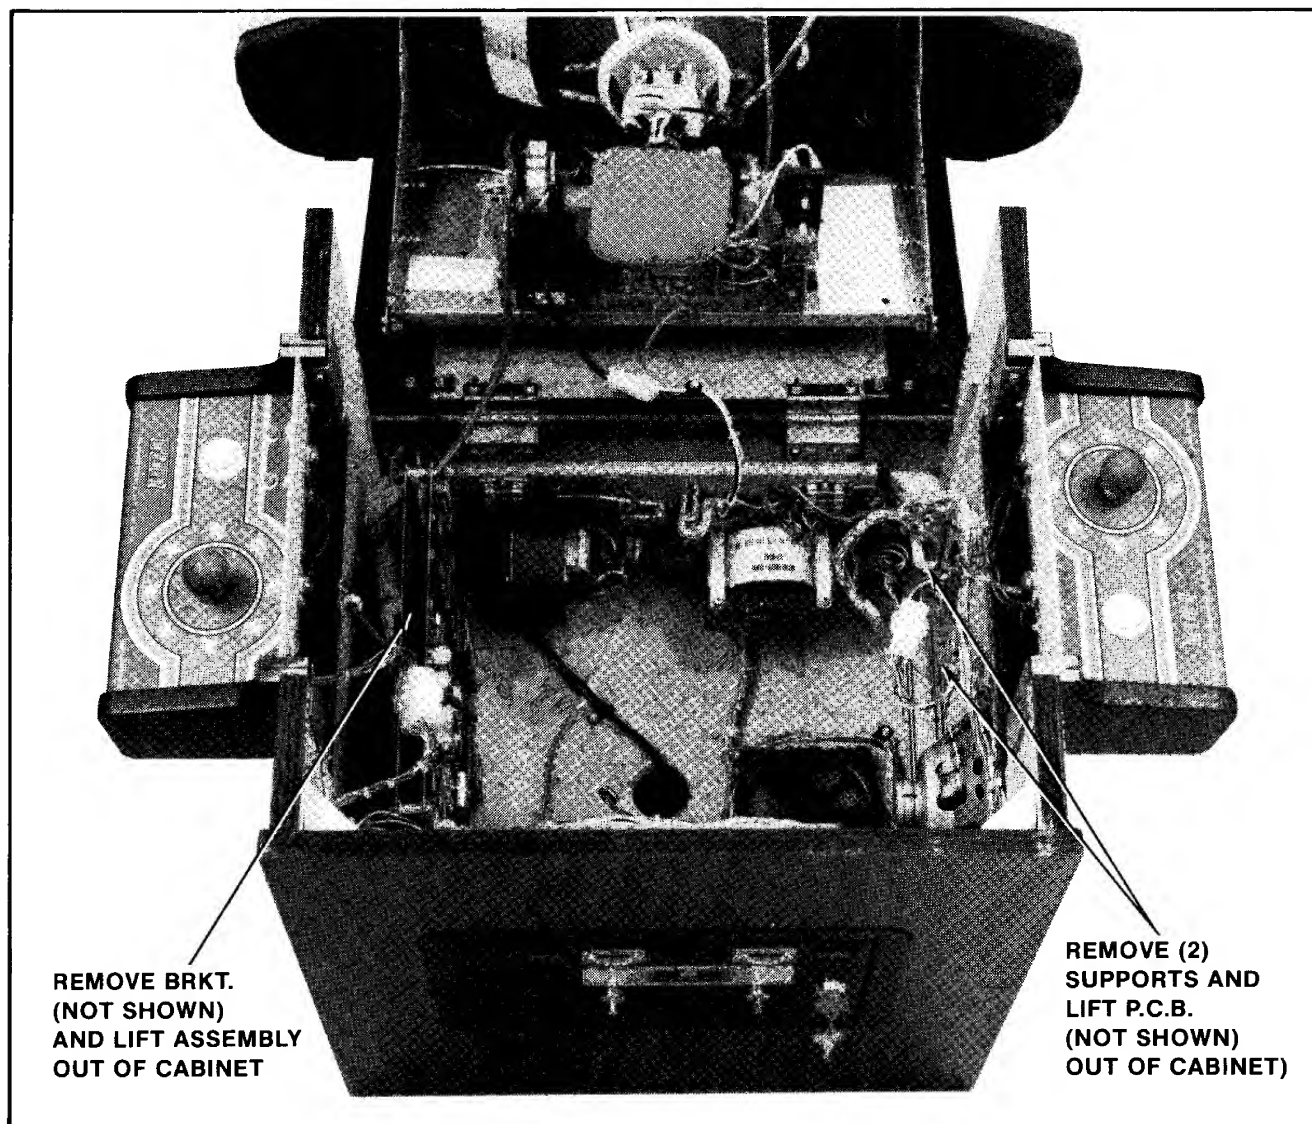

Figure 4-14 Replacing P.C.B.s — Cocktail
3. COCKTAIL TABLE MODEL: See Figure 4-14.
- ☐ To remove the power supply board. See Figure 4-14.
- ☐ To remove the game and sound boards. See Figure 4-14.